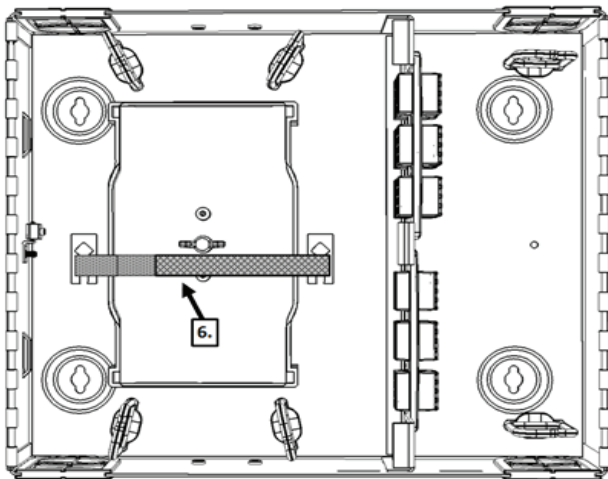

Figure 11
5. Create a snug mating of the Velcro to the trays. (Figure 11).